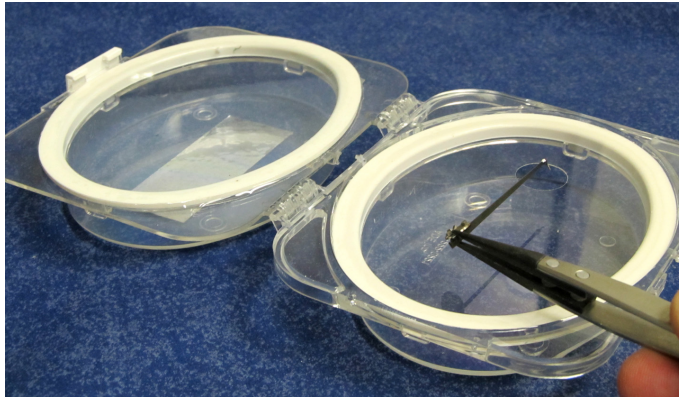

Figure 3-22: Lifting the Stylus from Its Case
- 3 Locate the case that holds the stylus that you want to install. After opening the case, use tweezers to gently lift the stylus holding ONLY THE SILVER MAGNETIC DISK PAD AT ITS BACK END (see Figure 3-22).